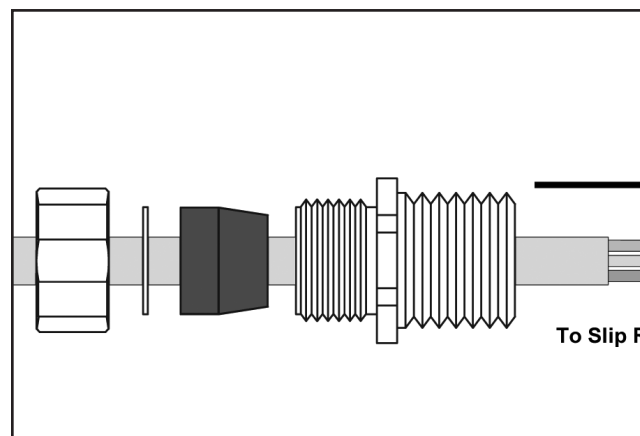

Figure 12-2
3. Unscrew the two parts of the strain relief/watertight and slide both sections and the neoprene grommet over the end of the cable as shown. Be sure to keep the fastening end last. See **Figure 12-2**.